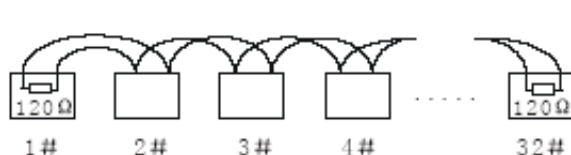

Fig 2
2.2 120Ω terminal resistance is connected as shown in fig 2.